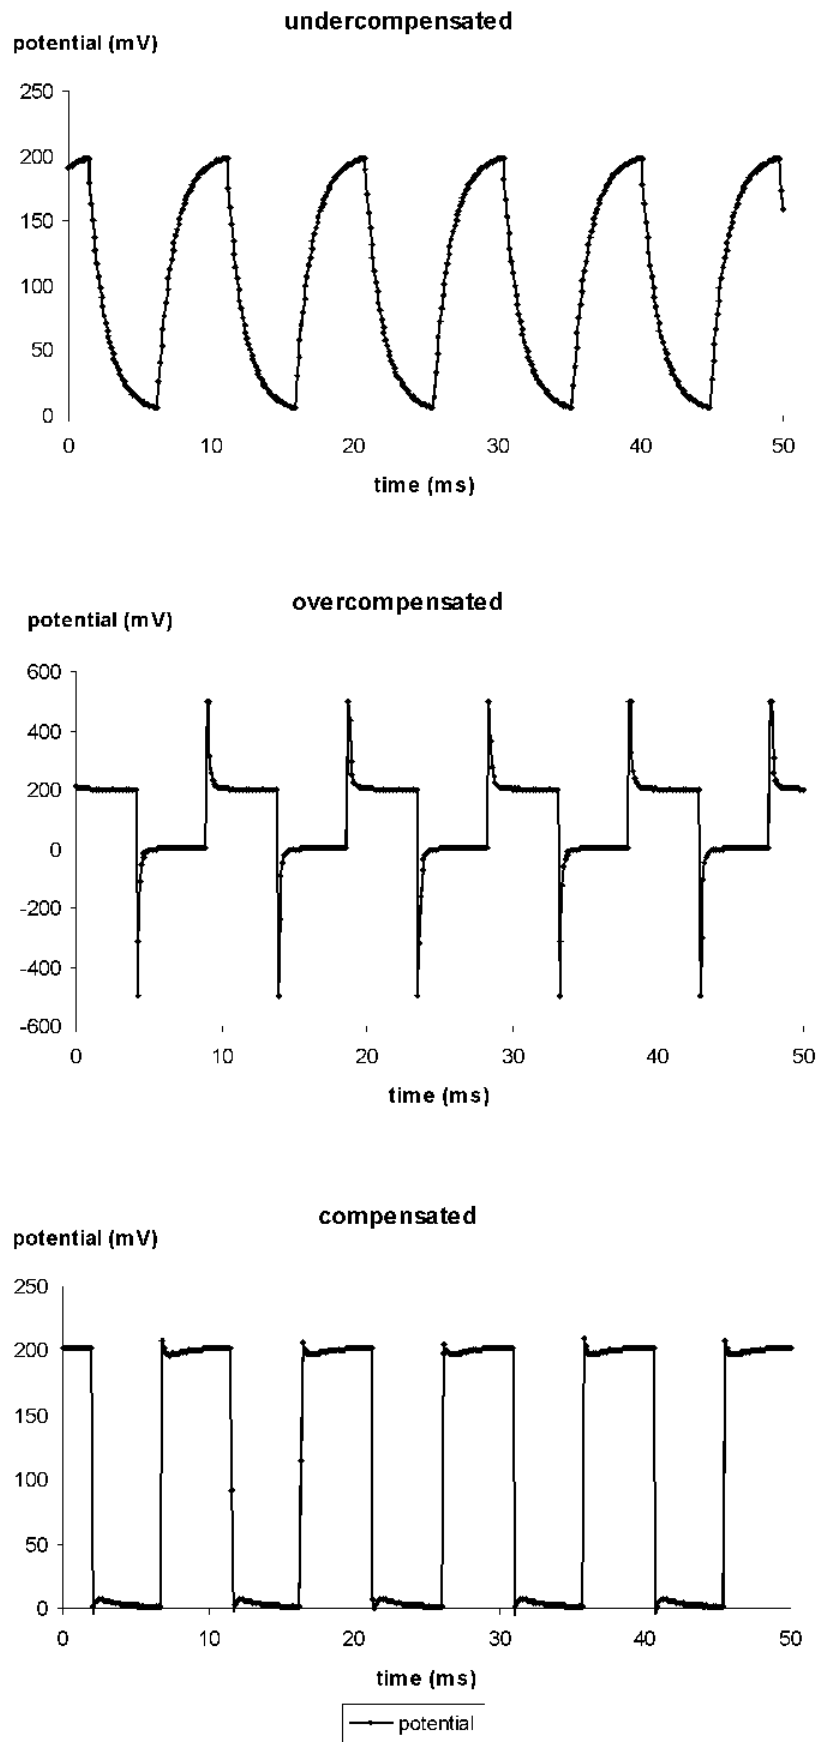

Figure 9: Tuning of the capacitance compensation using a 100 MΩ resistor
With the cell model connected or the electrode in the bath the CAPACITY COMP. control is turned clockwise until there is no capacitance artifact on the POTENTIAL OUTPUT (see Figure 9).
- o Compensate the input capacitance as shown in Figure 9 using the CAPACITY COMP. potentiometer (#17, Figure 1).
Figure 9 illustrates the capacitance compensation procedure using a 100 M Ω resistor that represents the electrode. The pulses were generated using the automated electrode resistance test circuit of the BA-03X. The upper diagram shows an undercompensated capacitance. In the diagram in the middle the capacitance is slightly overcompensated and in the lower diagram it is well compensated.
- o Immerse the electrode into the bath (not in a cell) as deep as necessary during the experiment. Test the capability of the electrode to carry current (see chapter 7.4), compensate the potential offset (see chapter 7.2), measure the electrode resistance (see #33, chapter 3.2) and compensate the input capacitance (see chapter 7.3 and Figure 9).